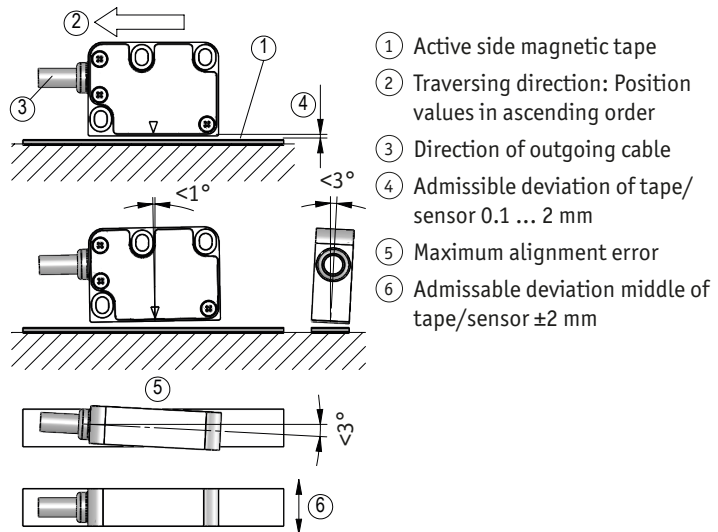

Fig. 6: Definition of the counting direction with magnetic tape and assemblage sensor / magnetic tape, gap measure, tolerances
► Take care that the magnetic sensor is aligned correctly in order to ensure optimum sensing (see Fig. 6).
- The distance tolerances were not observed over the whole measuring length (see Fig. 6, Fig. 7).
- The magnetic sensor has been mounted with the active side turned away from the band (see Fig. 6, Fig. 7).
- Magnetic sensor has not been aligned according to Fig. 6, Fig. 7.